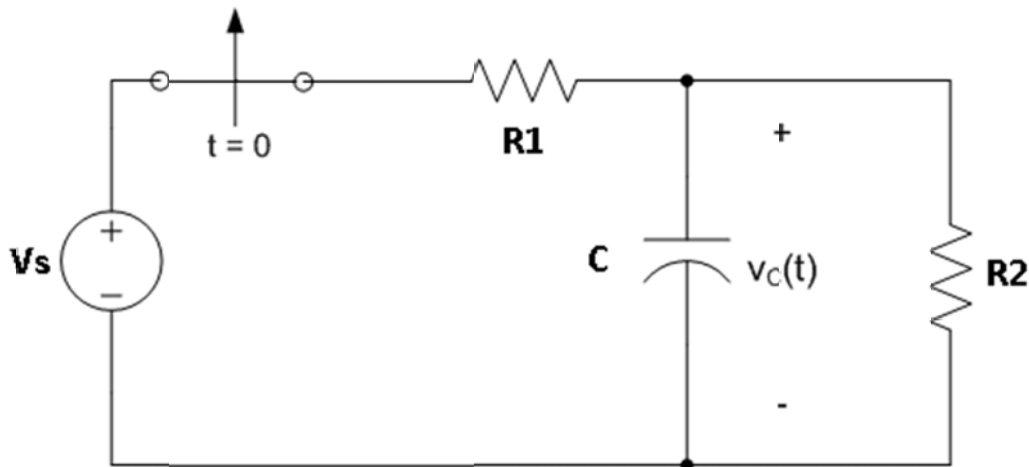

Figure 5: Discharging
5) Figure 5 shows a circuit with a discharging capacitor. The capacitor's discharging voltage transient solution will be of the form
7) All the above calculations and measurements need to be repeated for the discharging circuit shown in Figure 5. Using your results from Exercise 5 (the discharging transient), calculate